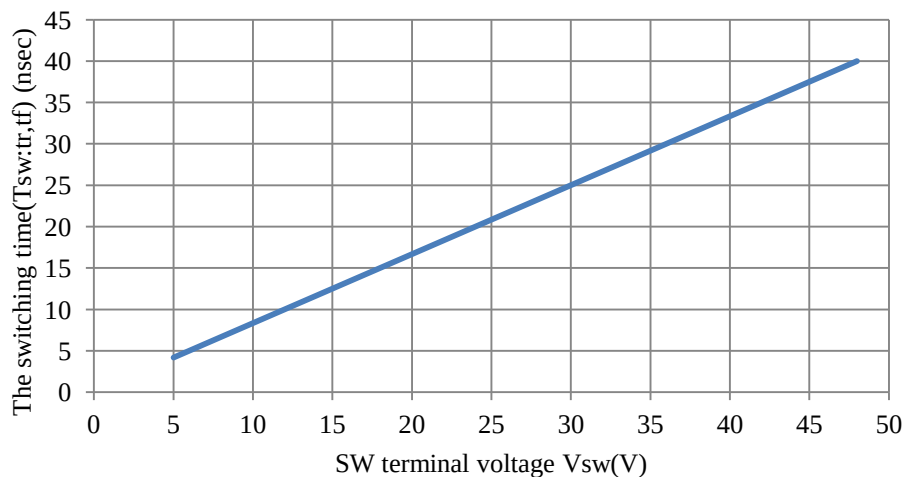

fig.19
As for the fig.19, in the calculation of the switching-time of internal PowerMOSFET, this is based on the assumption with no influence such as Parasitic-Inductance in main-circuit. It is prescribed with “turn-on time t_r ” and “turn-off time t_f ” being the same speeds.
As the loss of internal-PowerMOSFET, there are the loss of “steady-ON” by the ON-resistance “Ron” between the “source” and “drain”, and the switching-loss by the switching-time in the fig.19.
• T_{sw} is prescribed by the value (sec) of the figure 19 with “turn-on time t_r ” and “turn-off time t_f ” being the same